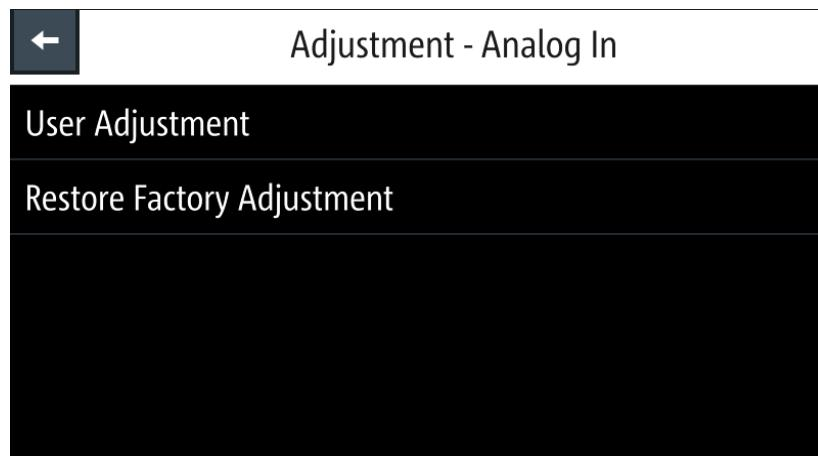

Figure 5-35: Adjustment - Analog In dialog
2. To proceed analog input adjustment, select "User Adjustment" in Figure 5-35. The R&S NGP800 displays the "ANALOG IN ADJUSTMENT" wizard to guide the adjustment procedures.